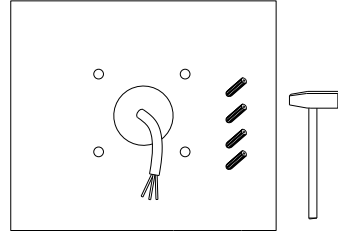

Figure 3-2
2. Fix rubber plugs in holes. (Figure 3-2)